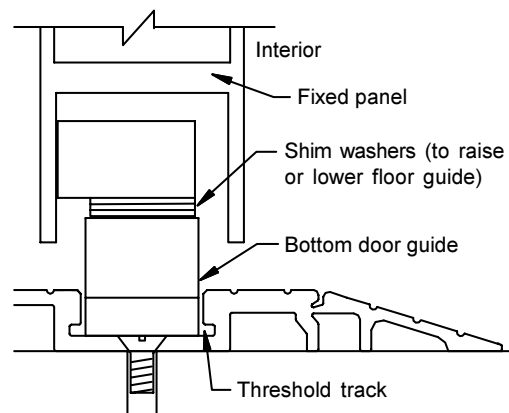

Figure 21. Floor Guide Check
5. **FOR FULL BREAKOUT APPLICATIONS:** Verify that the bottom guide is in the threshold track and slowly slide the door back and forth to assure smooth operation. Check to see if the floor guide is deep enough in the track. It may be necessary to add or remove shim washers as required (**Figure 21**).